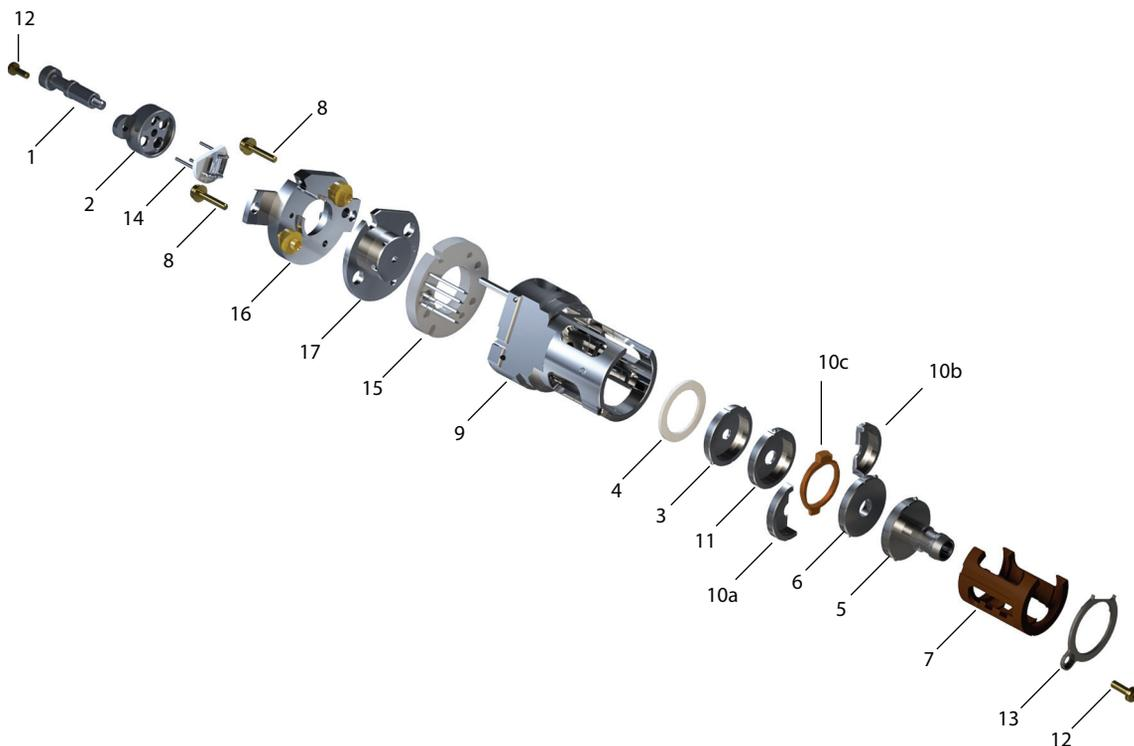

Figure 58. EI HES 2.0
This section lists the EI HES 2.0 parts. (See **Table 18** and **Figure 58** on page 203.)
**Table 18** Parts list for EI HES 2.0 (Figure 58 on page 203)